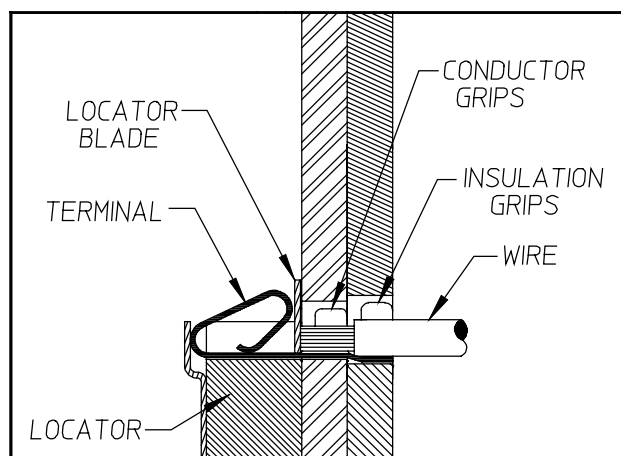

Figure 2
- Partially close the tool until the terminal is held in place, (See Figure 2).